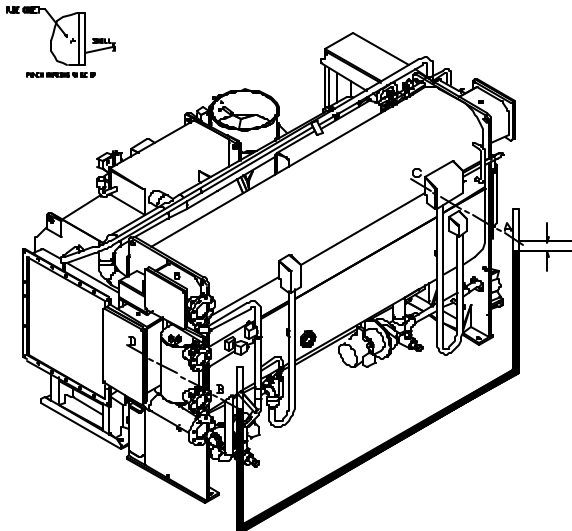

Fig.1-5 Check Machine Level
3. Use water gage and leveling reference of points stamped on tube sheet to level the chiller as shown in Fig. 1-5.